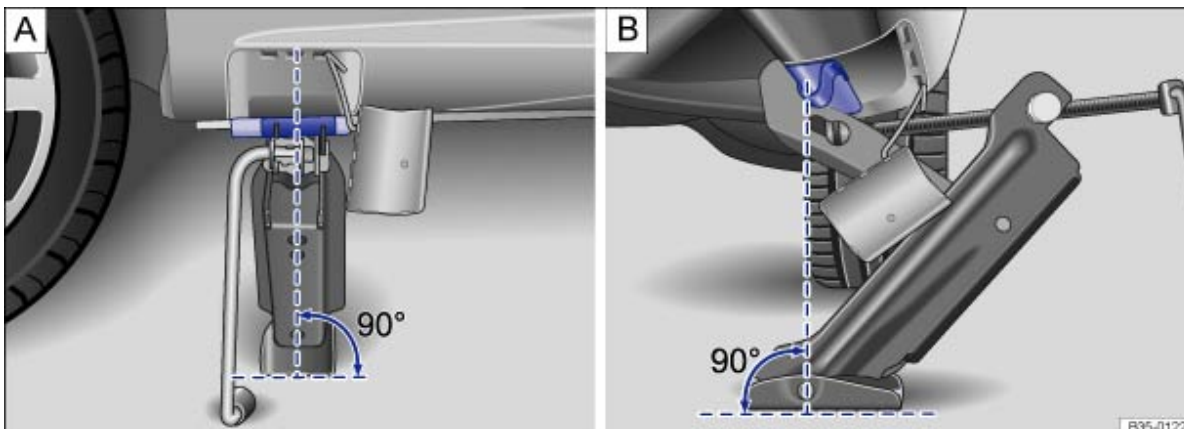

Fig. 233 Jack at the rear on the left-side of the vehicle
- Fit the jack only at the points described. The jack claw must grip the vertical rib under the sill securely → Fig. 233 .